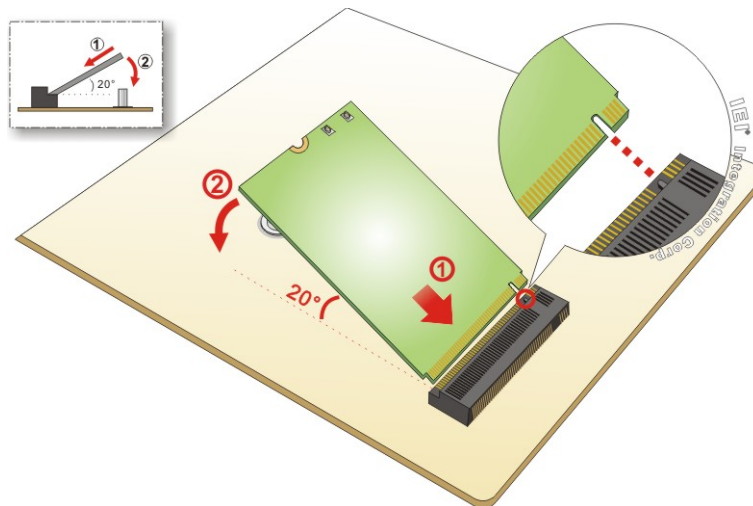

Figure 3-6: Inserting the WLAN Module
- Step 5:** Line up the notch on the WLAN module with the notch on the slot. Slide the WLAN module into the slot at an angle of about 20° (Figure 3-6).